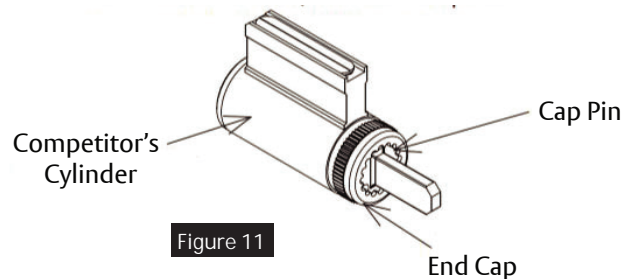

Figure 11
2. Depress cap pin and unscrew end cap to remove tailpiece from competitor's cylinder. (Figure 11)